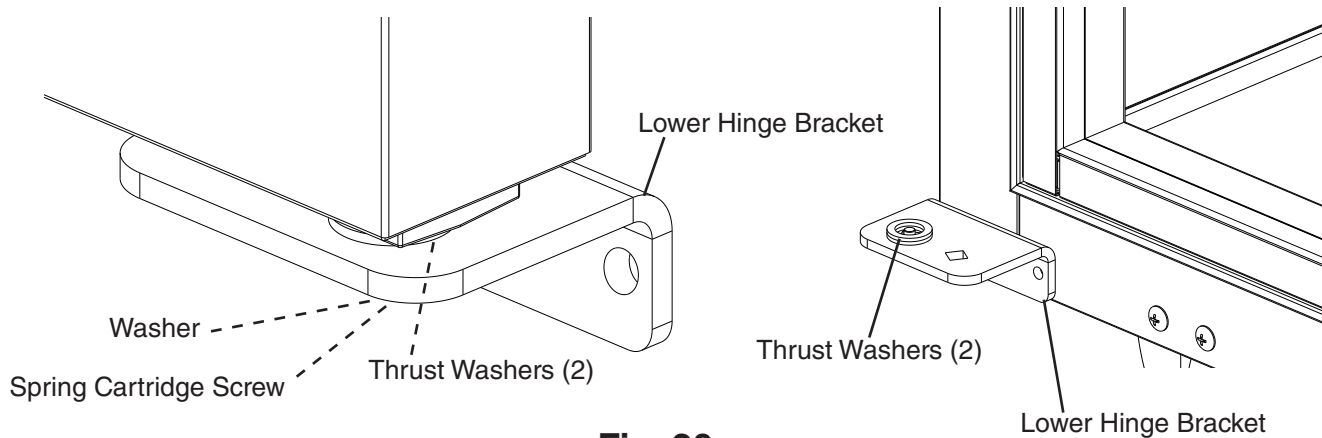

Fig. 20
- 9) Remove the lower hinge bracket spring cartridge screw, washer, and thrust washers from the door. Set the door aside. Next, secure the lower hinge bracket to the opposite side. Make sure the lower thrust washers are in place. See Fig. 20.